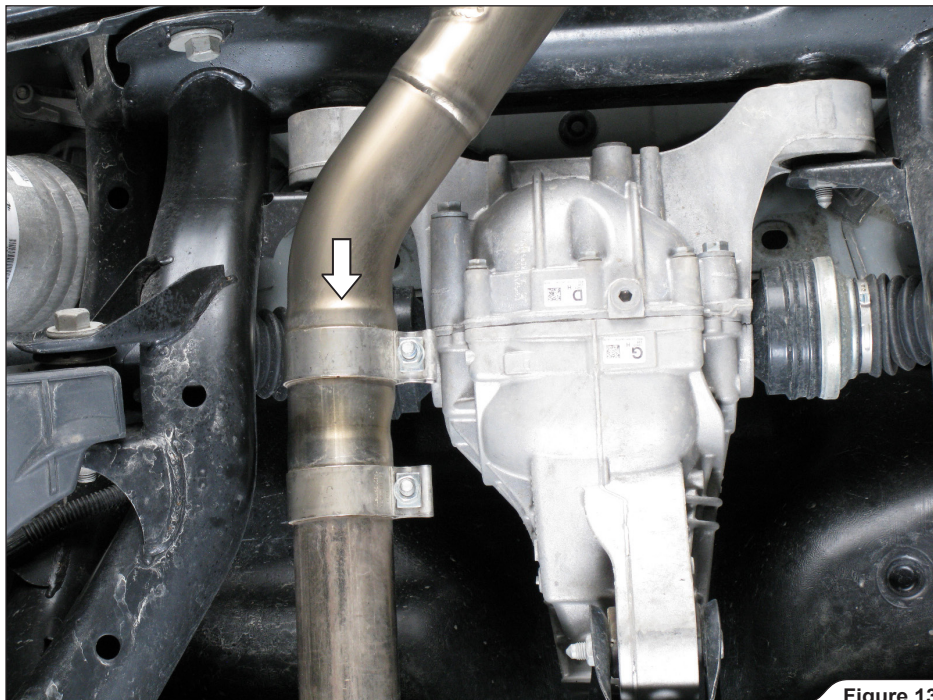

Figure 13
5. **For Diesel model only:** slide the muffler link pipe all the way onto the stock middle pipe (Figure 13).